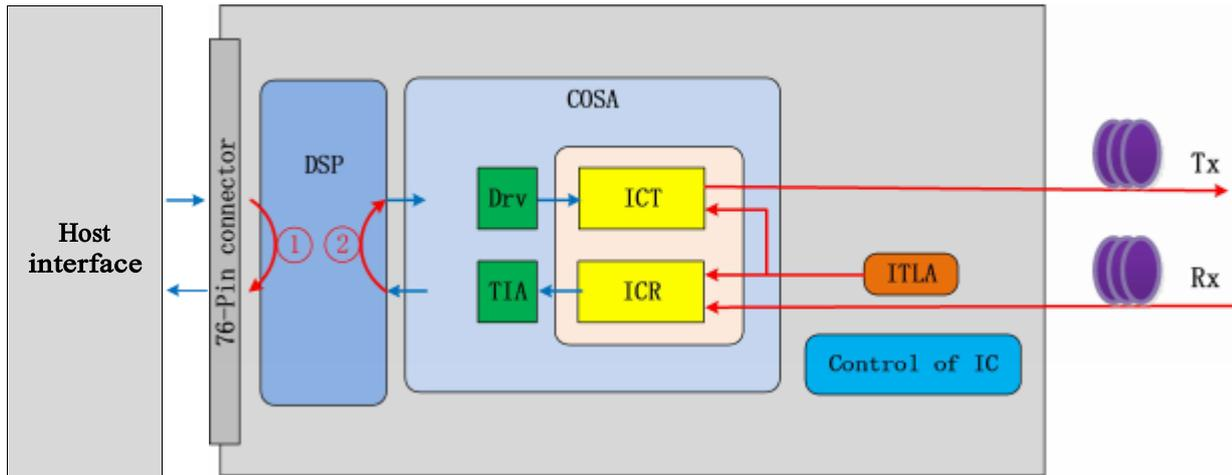

Figure 2 Module Loopback Orientation
The module support loopback functionality. The host loopback (Loopback ①) and the network loopback (Loopback ②) are shown at bellowing Figure 2. For details on controlling the loopback mode, please refer to Reference [2]. In optional loopback, TXn is looped back to RXn, for example TX0+ to RX0+, on both host and media side.